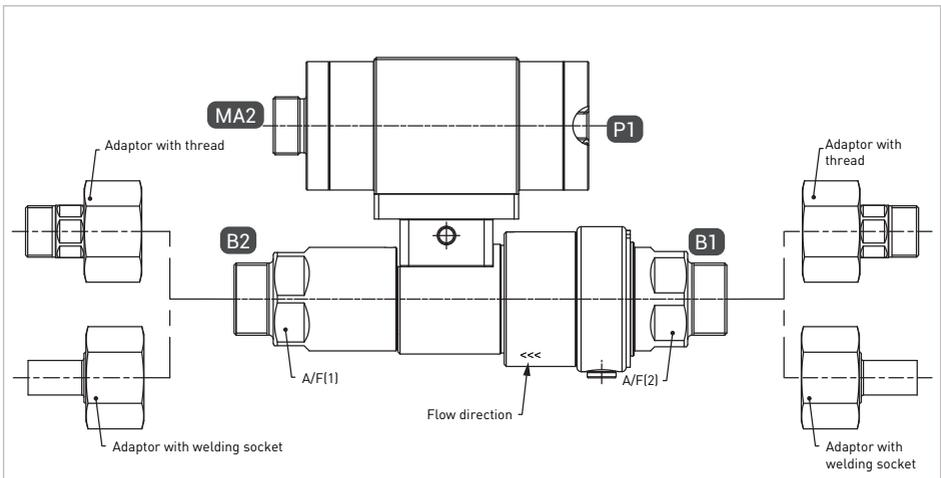

Figure 1
- ▶ When mounting the shut-off valve, hold an open-ended wrench (A/F45 or A/F46) against the wrench size A/F(1) and A/F(2) (*Figure 1 on Page 21*).